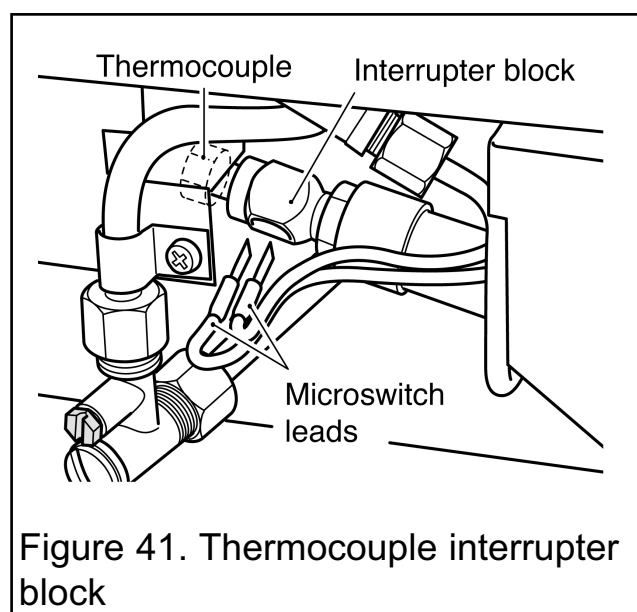

Figure 41. Thermocouple interrupter block
2. Loosen the thermocouple nut to free the microswitch leads and pull the leads clear of the thermocouple interrupter block (See figure 41).
16.13 To remove the thermocouple interrupter block (See figure 41).